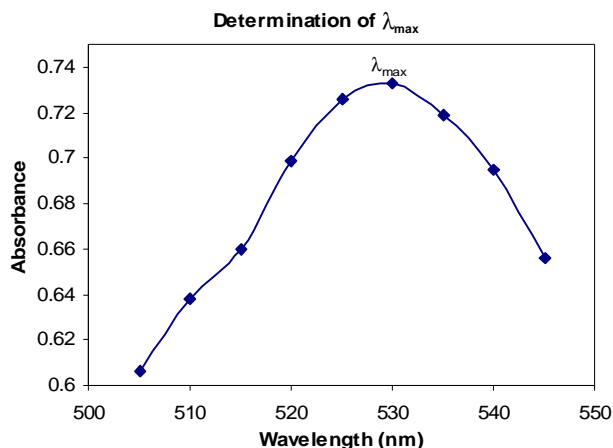

Figure 1: Sample Graph for Determination of Maximum Wavelength
- a Construct a graph of absorbance vs. wavelength (used to determine λ_{\max}) using all the values Listed in Tables 1 and 2. See Figure 1 below for an example. Make sure to label your axes and provide a descriptive title.